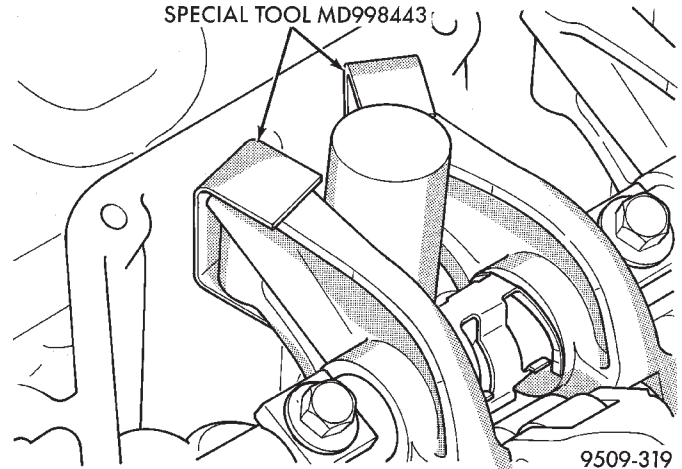

Fig. 45 Auto Lash Adjuster Retainers
- (1) Remove cylinder head cover(s). Refer to procedure in this section.
- (2) Identify the rocker arm shaft assemblies before removal.
- (3) Install auto lash adjuster retainers, Special Tool MD-998443 onto rocker arms (Fig. 45). These